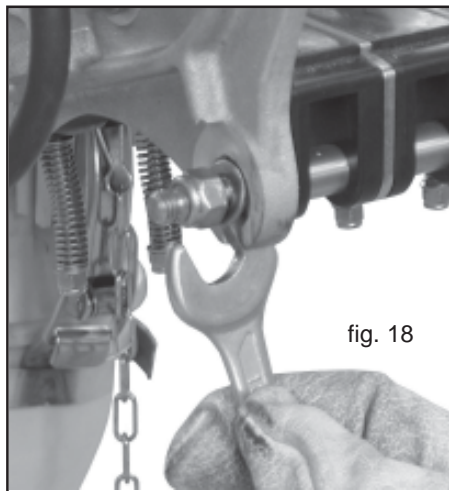

fig. 18
- 2) until it becomes possible to push out the discs fitted inside, remove them from their seats (Fig. 18) and move the axles.